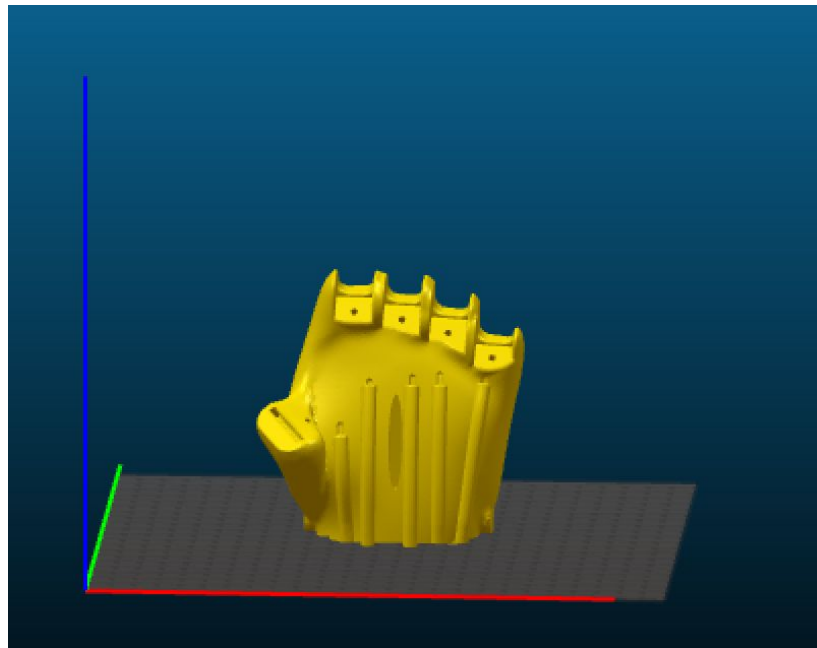

Fig.3 Palm Printing
- Palm: Orient the hand as seen in the picture below (Fig.3) and please don't add any support. It is printed with 35% infill with Ninjaflex